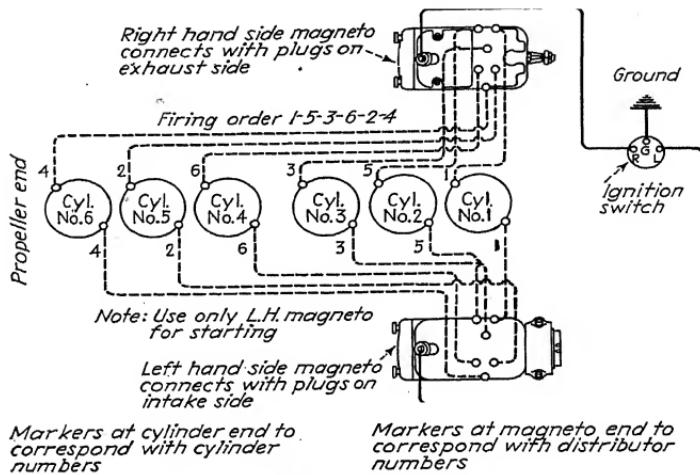

FIG. 7.—Wiring diagram of Ranger engine.
**Magneto Wiring.**—For wiring arrangement refer to the wiring diagram, Fig. 7; use ignition cable for all connections. The ground terminal must be connected to the engine crankcase.